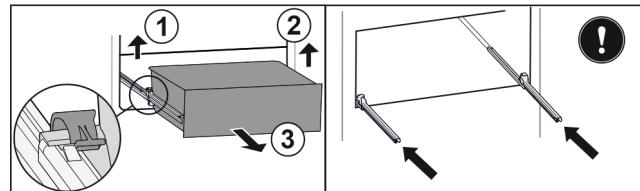

Fig. 152
- Lift left clamp and simultaneously pull drawer forwards on the left. *Fig. 152 (1)*
- Lift right clamp and simultaneously pull drawer forwards on the right. *Fig. 152 (2)*
- Remove drawer to the front. *Fig. 152 (3)*